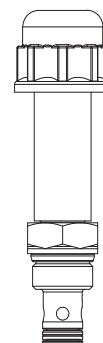

FIG. 4-10
6. Push and hold the manual override button on valve (9008438). (FIG. 4-10)